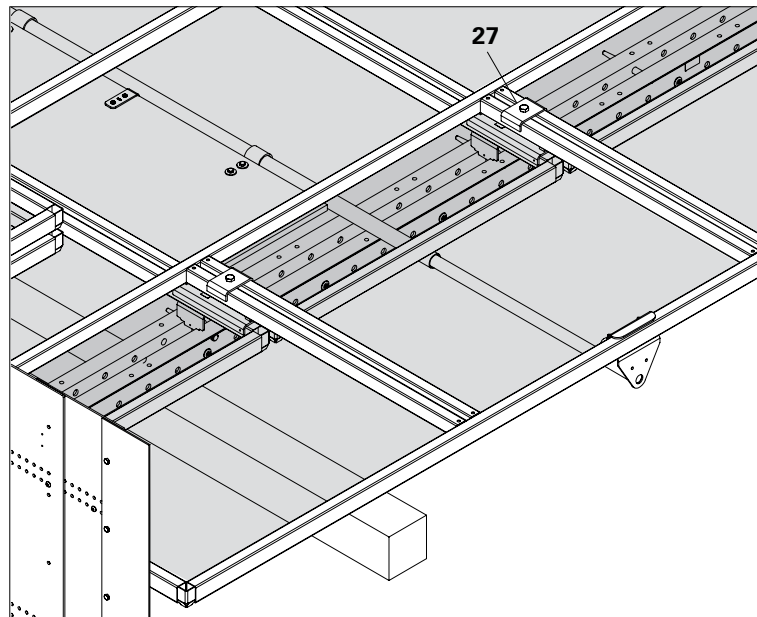

Fig. C2.05
1. Loosen the Nut (27.5) of the Screen Clamping Plate on the Screen Adapter Combi (27) or loosen the Screen Adapter Telescope by a few turns.
- (Fig. C2.05)